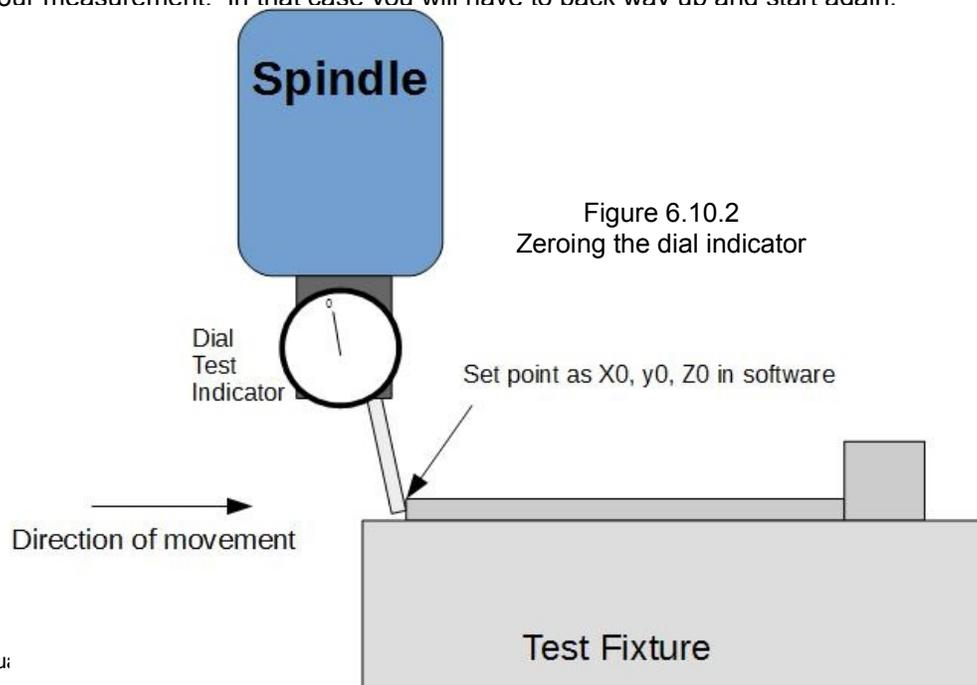

Figure 6.10.2
- 6. Move the dial indicator into position:** Start from away from the block and jog towards the top of the "L". Set jog panel mode to incremental when you get close. Move the spindle so that the dial indicator is reading as close to "0" as possible as demonstrated in Figure 6.10.2.